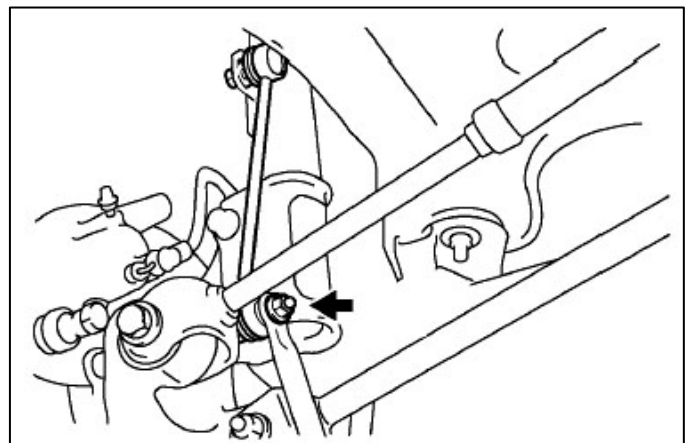

Figure 4
1. Remove the 2 nuts (1 on each side) retaining the bar links to the stabilizer bar (Figure 4).